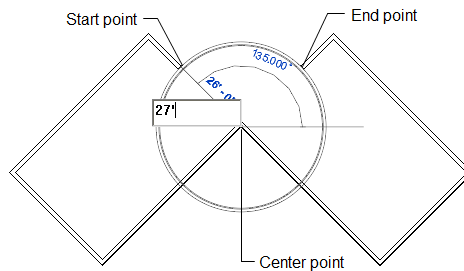

Figure 3-50 Starting the curved wall segment
1. Choose the **Center-ends Arc** tool in the **Draw** panel of the **Modify | Place Wall** tab. Move the cursor in the drawing window and click on the outer intersection of the inclined walls to specify the center of the curved wall, refer to Figure 3-50.
2. Move the cursor near the endpoint of the last sketched inclined wall segment. When 135-degree is displayed as the angular dimension, enter the value **27' (8230 mm)** as the radius of the curved wall and press ENTER, as shown in Figure 3-50. On doing so, the curved wall with the specified radius starts from the specified point.